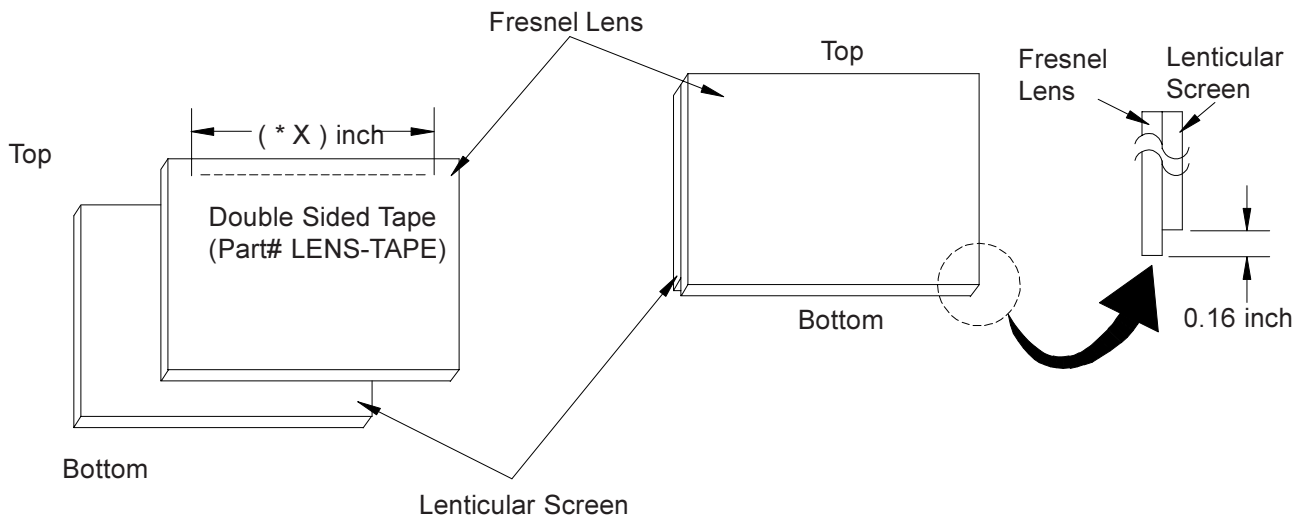

Figure 2-2
1. Apply double coated tape (Part # LENS-TAPE) along the top front edge of the Fresnel Lens as shown in *Figure 2-2*. Refer to *Table B* for proper tape length.
2. Place the Fresnel Lens on top of the Lenticular Screen and apply pressure at the top edge to bond them together as shown in *Figure 2-2*.